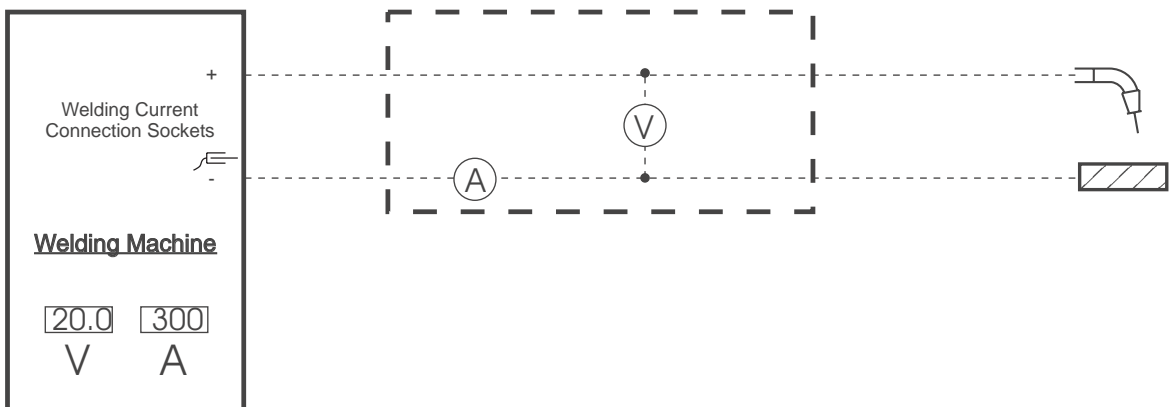

Fig. 1: Diagram of the measurement structure
- e.g. **(C1)** means: Item C / Figure 1 in the respective Section
- e.g. **(Sect. 3, C1)** means: in Section 3 Item C / Figure 1